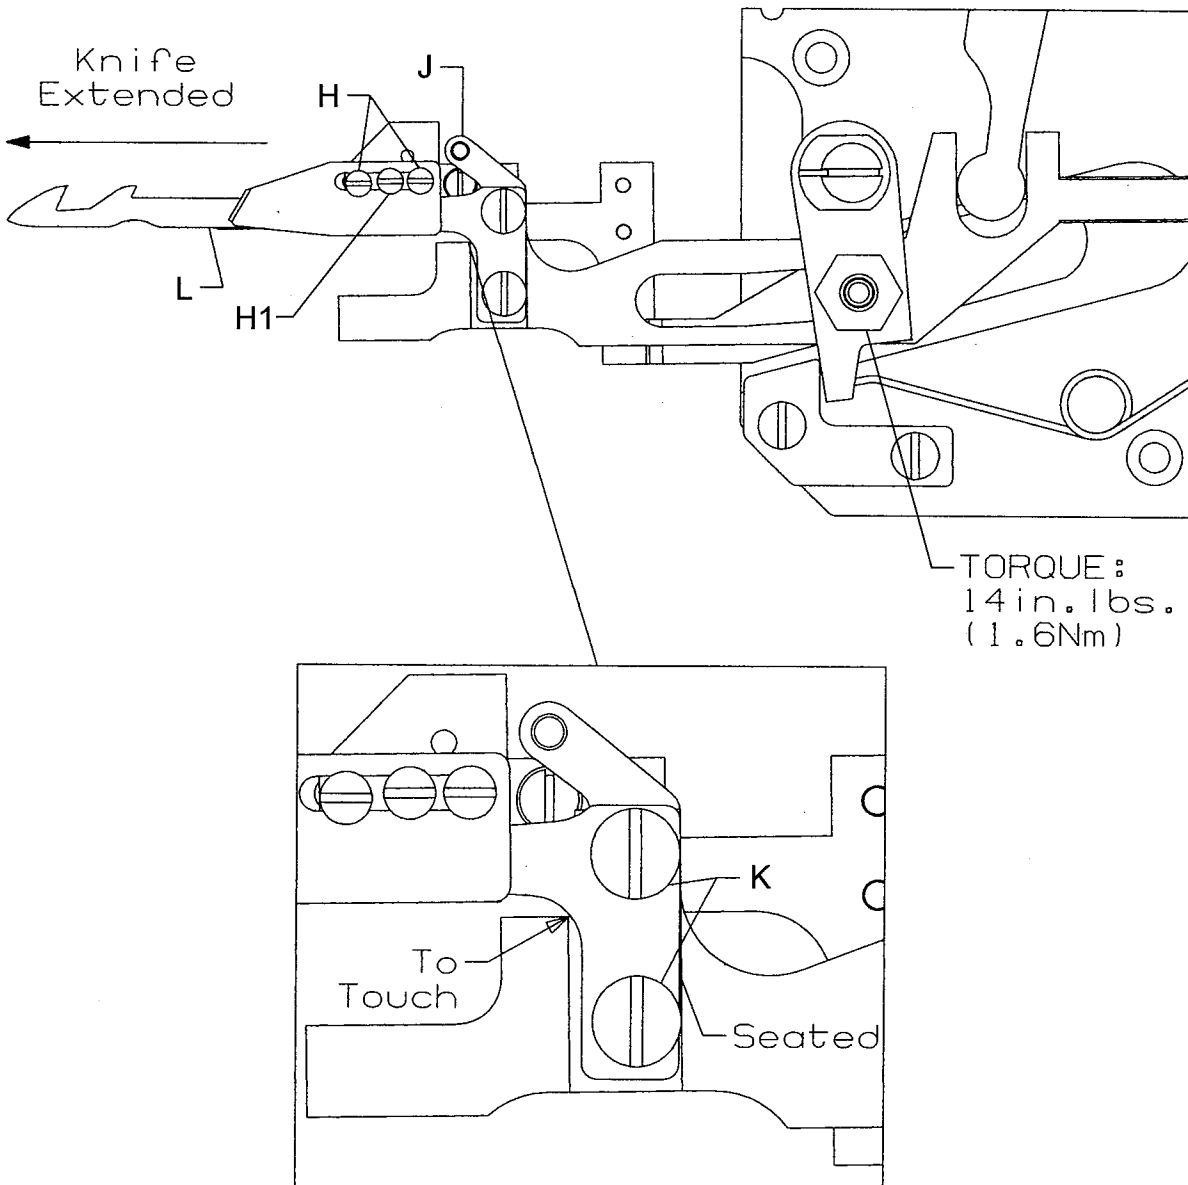

Fig 2
Lower knife (L) must be seated to the right and all the way forward when tightened.(Fig2)